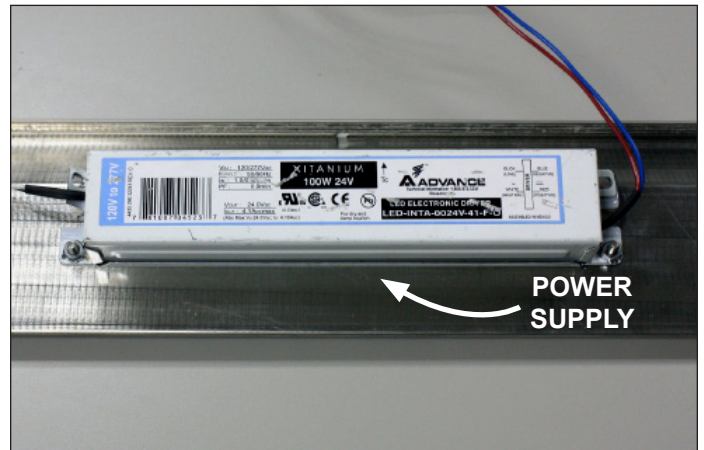

Fig. 22 Clear view of the power supply once the light reflector is removed.
3. Ballasts/power supplies are now visible (Fig. 22).